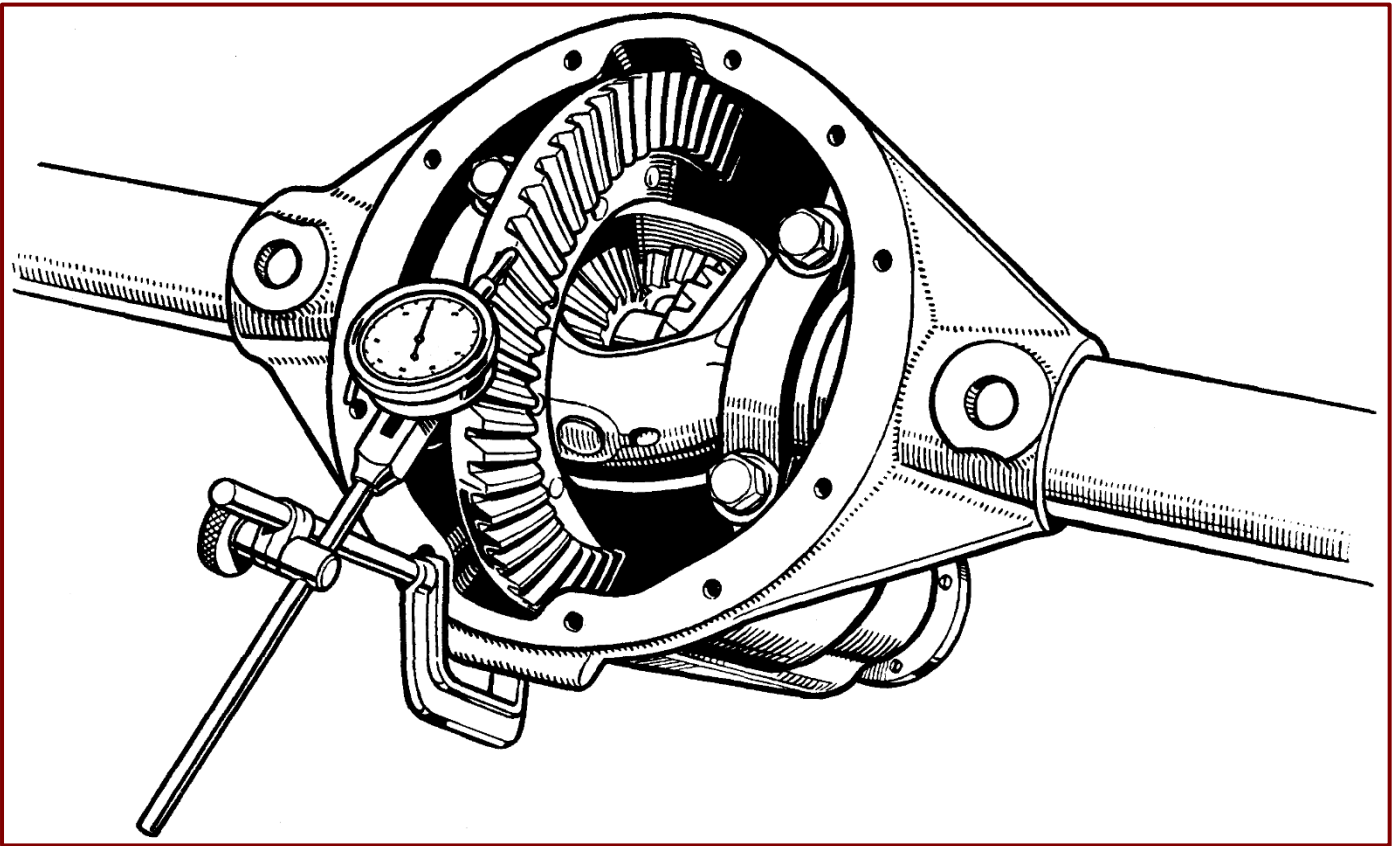

Figure 57. Checking Backlash.
11. Re-mount the dial indicator on the gear carrier housing with the button against one of the drive gear teeth, as nearly in line with the direction of tooth travel as possible. (*Figure 57*). Move the drive gear by hand to check the backlash which should be as etched on the gear. If the backlash is not in accordance with the specification, transfer the necessary shims from one side of the differential case to the other side to obtain the desired setting. To increase backlash, remove shims from the drive gear side of the differential and install on the opposite side. Backlash is decreased by transferring shims to the drive gear side from the opposite side of the differential case.